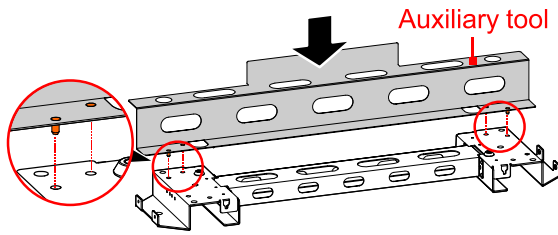
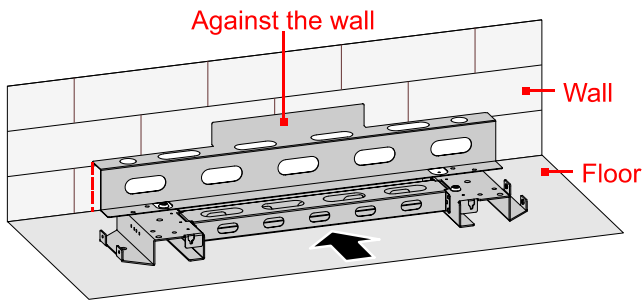

Figure3-10 Install auxiliary tool
Figure3-11 Auxiliary tool against the wall
Step 6 Lead the cover plate into the base module and fix it with screws, as shown in Figure3-10, Figure3-11.
- Step 1 Strip the insulation layer of grounding wire for about 7mm, insert the wire into OT terminal and crimp them by crimping tool, the as shown in Figure3-11.